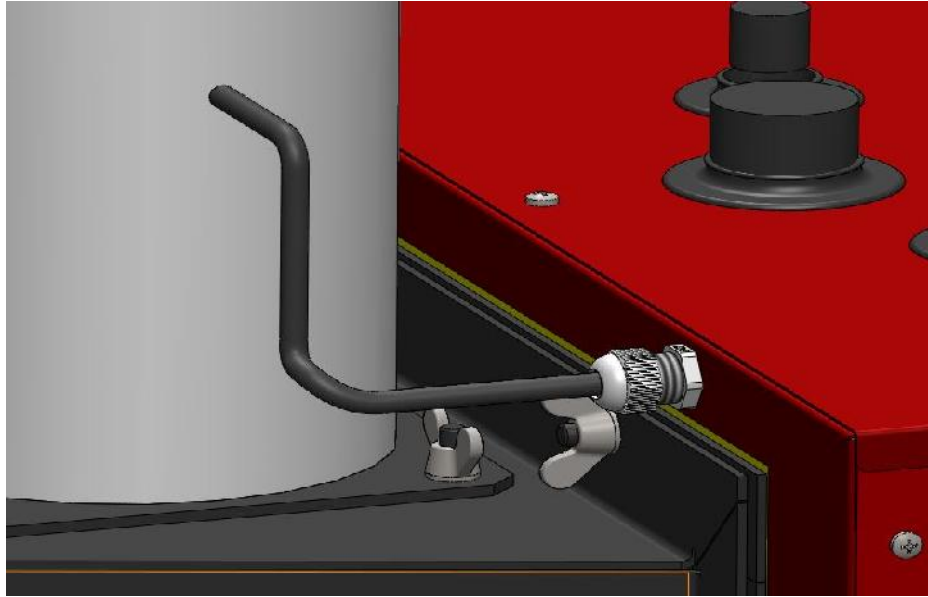
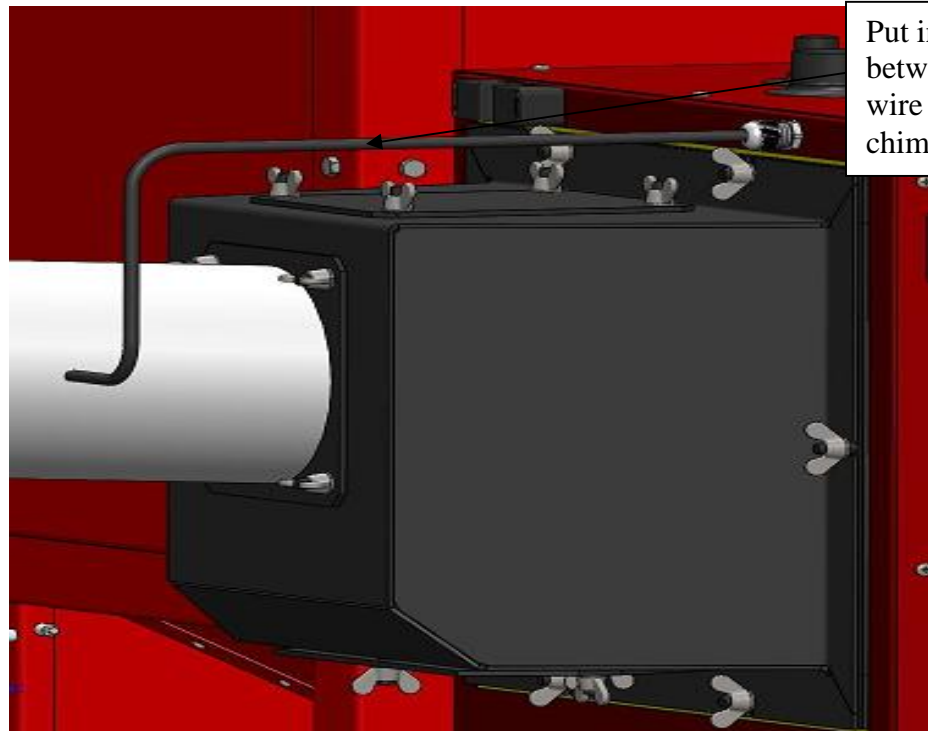

Figure 12a. Placing the probe
Figure 12b. Placing the probe
- Drill a hole of 4 mm diameter on the upper side of fume pipe in the zone that is very close to wall outlet of the boiler. (**Figure.12a and Figure 12b**)